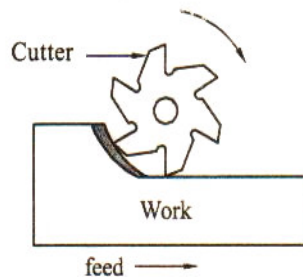

Fig. 11.1 Up milling
- (i) **Plain Milling (Slab Milling):** Fig 11.1 shows plain milling. It helps to produce flat or formed surfaces parallel to cutter axis. A plain or slab milling cutter which has straight or helical teeth is used in the process. There are two types. (i) Up milling and (ii) Down milling.